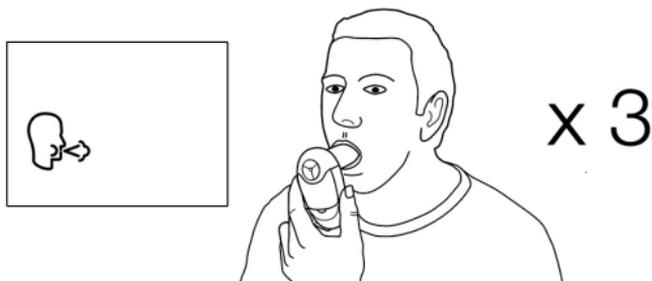

Figure 3. Holding device during test.
5. Instruct the subject to hold their head high and hold the Vitalograph Lung Age ready in front of the mouth, see Figure 3.